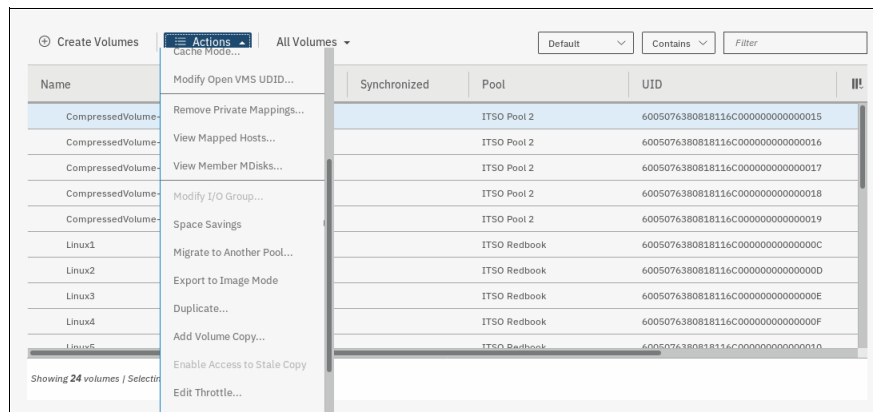

Figure 8-37 Actions menu for a volume
3. Right-clicking or selecting a volume and opening the Actions menu shows the available actions for a volume, as shown in Figure 8-37.